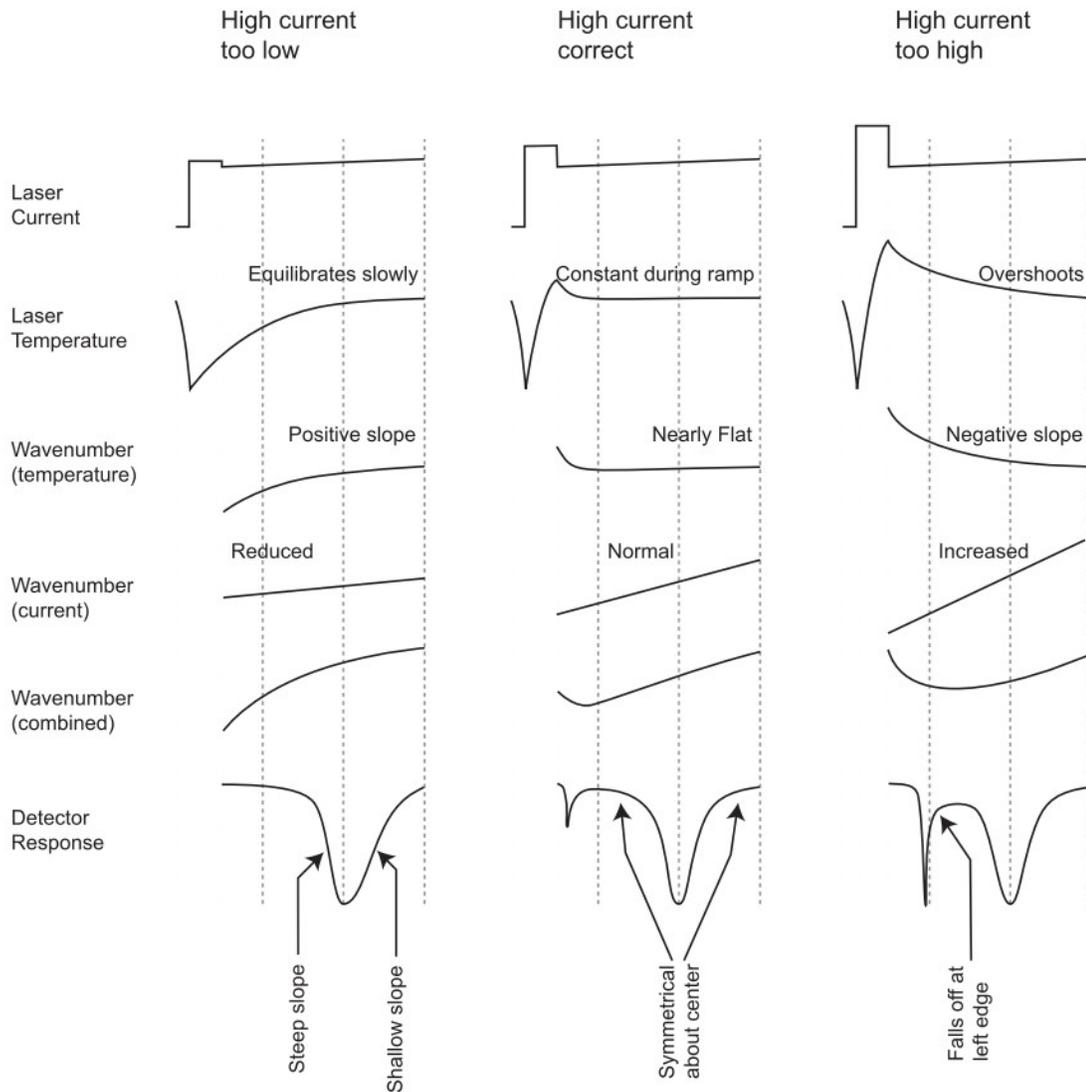
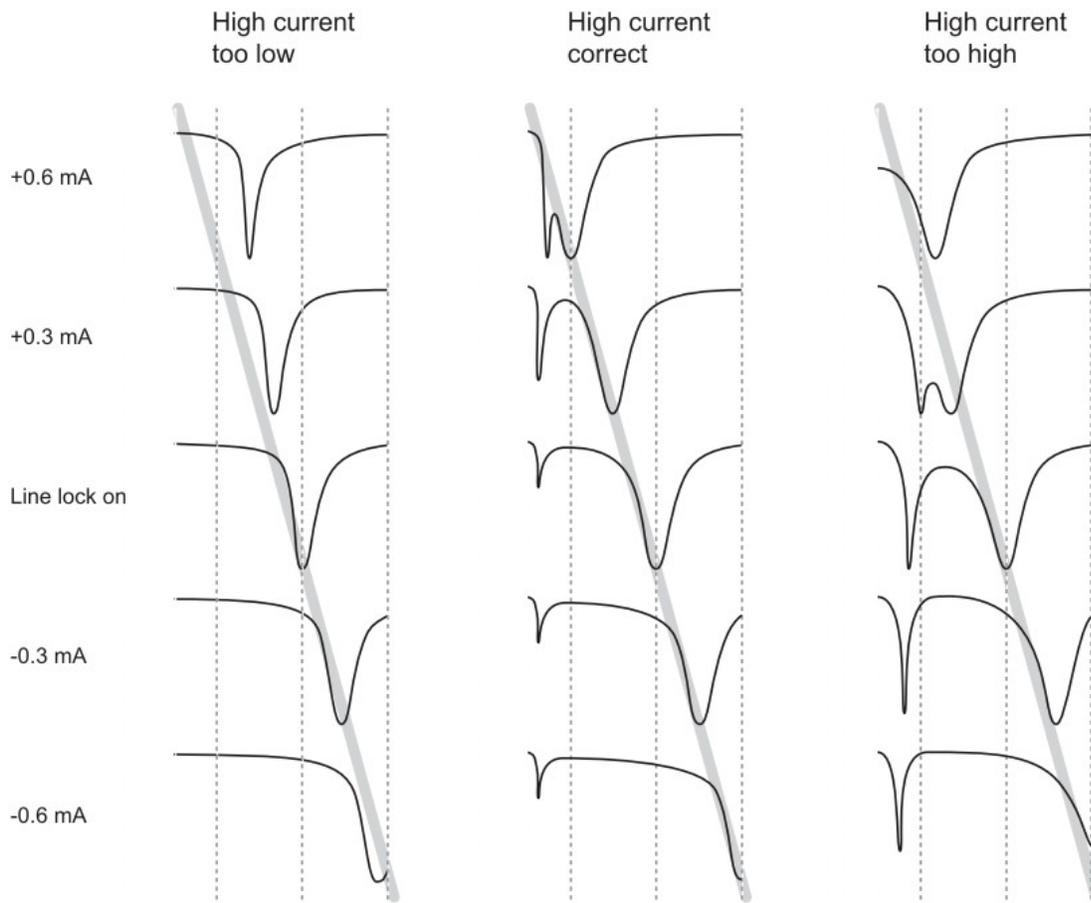

FIGURE C-6. Effects of temperature perturbation
FIGURE C-7. High current adjustment procedure
The laser cools slightly at the start of the spectral scan when it is turned off by reducing its current to the zero-current value, as discussed in Section 4.2.5, *Laser Scan Sequence*. If the actual spectral scan started immediately thereafter, the laser temperature would rise during the entire spectral scan. The rise in temperature would be more rapid at first, but slow near the end of the scan as the temperature approached equilibrium. The change in temperature would change the laser's emission frequency, adding an undesired spectral modulation, as illustrated in the far left panel of FIGURE C-6. To minimize this problem, the laser current is increased above the DC current by an amount specified in the *High current offset* parameter. The duration of this high current pulse is determined by the laser *High current count* parameter. When these parameters are properly set, the heat from the increased current compensates for the heat lost when the current is reduced, stabilizing the laser temperature more quickly.
As shown in FIGURE C-6, improper high-current adjustment makes the absorption line appear asymmetrical. The goal of the high-current adjustment procedure is to make the absorption line symmetrical about its center.
A more objective method to evaluate this symmetry is to adjust the DC current to move the absorption line to the left and right of the center line. If the high current is adjusted properly, the absorption line will move the same distance left/right of center for the same change (\pm) in DC current. This is illustrated in FIGURE C-7. The left panel shows that with the high current too low, changing the DC current by +0.6 mA moves the absorption line only halfway to the left edge of the scan, but changing the DC current by -0.6 mA moves it all the way to the right edge of the scan. In the center panel, the absorption line moves symmetrically, all the way to the left and right edge of the spectral scan for the same (\pm) change in DC current.
12. Evaluate the results and iterate as needed using the steps below and referring to FIGURE C-7:
- If the high current is too high, the laser's frequency will overshoot the absorption line at the beginning of the spectral scan, quickly scan backwards through the absorption line, and then scan forward through the absorption line. This is visible in the reference detector display as a second narrow absorption line at the left edge of the spectral scan data. See FIGURE C-6 and FIGURE C-7. This is acceptable as long as this "ghost" line is in the omitted part of the scan. But if the signal falls off at the left edge of the scan as illustrated in the lower right of FIGURE C-6, the high current must be reduced (even if the "counting steps" criterion indicates the high current is already too low).
- When incrementing the DC current, it may not be possible to move the absorption line to the left edge because the two absorption lines (the true line and its "ghost") may merge just inside the left vertical dotted line (see FIGURE C-7, top right). This also indicates the high current is too high.